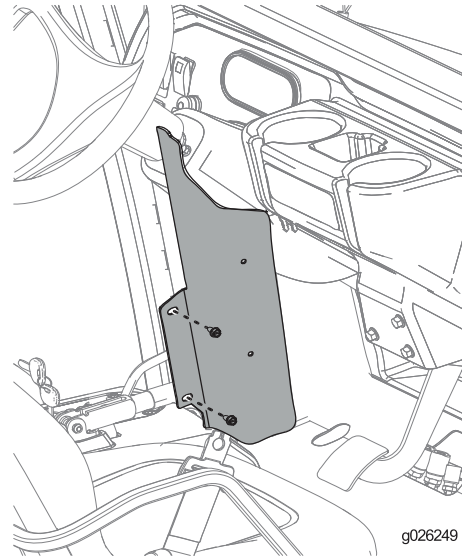

Figure 46
3. Install the side-plate panels on each side of the machine using 2 bolts (1/4 inch) as shown in Figure 46.